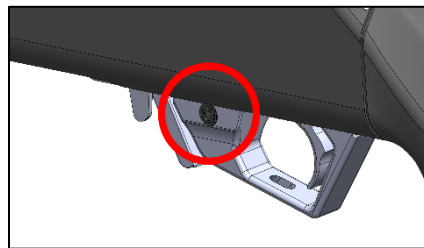

Figure 8 – SAFETY ON/FULL SAFE
- Place the safety button into the “FULL SAFE” position with the red band hidden – Figure 8.